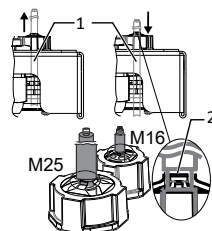

Fig. 14: Connecting the shield to the EMC screw fitting
- 1 Open and close the door completely to check that the cables (1) are not subject to tensile or compressive forces.
- 2 Mark the position for connecting the shield on the clamping ring (2) of the EMC screw fitting.
- 4 Pull the cables back to the shielding point until full shielding is provided by the clamping ring and the connecting cable cannot be displaced. [See figure 14] [► Page 10]